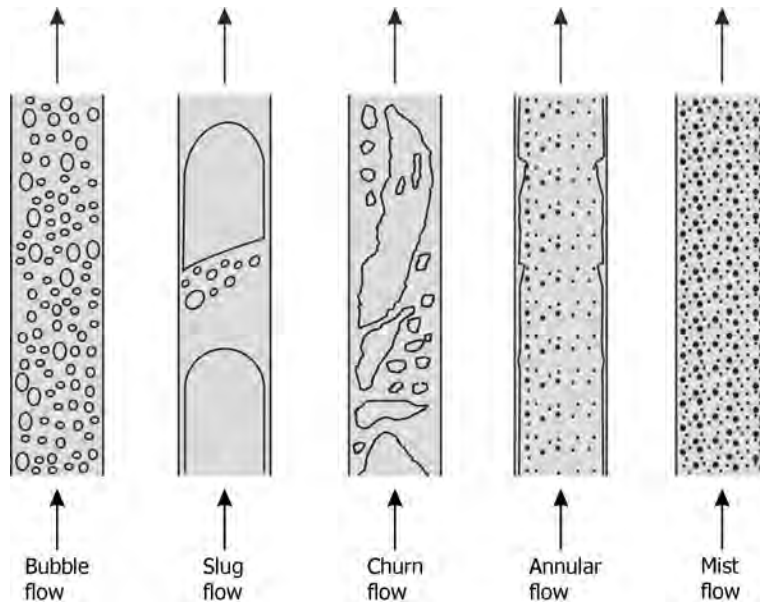

FIGURE 7.1 Flow patterns in gas-liquid flow in vertical pipes.
- Figure 7.1 illustrates the flow patterns.